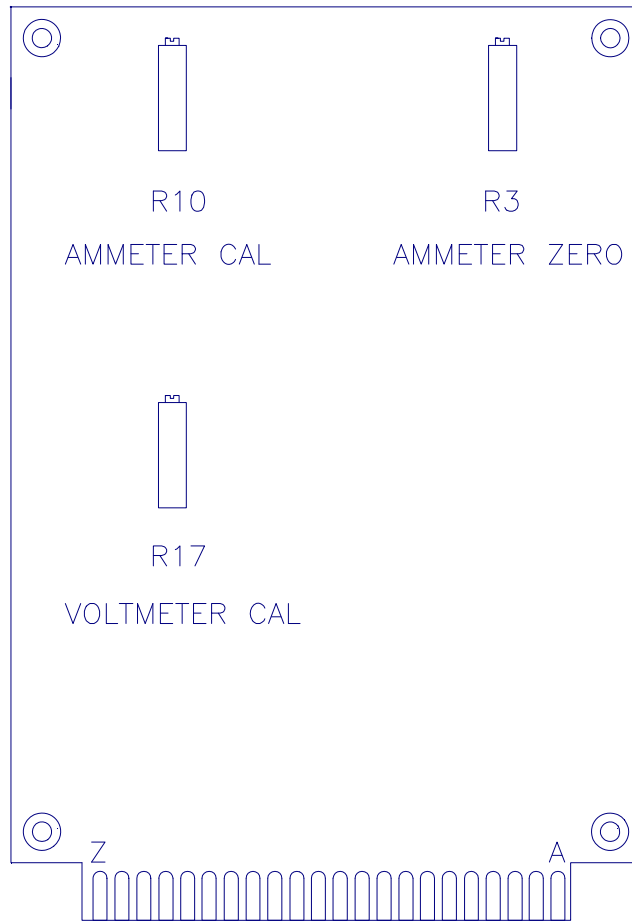

Figure 7 - Meters Board Adjustments (rear view)
10.2 DIGITAL METERS (see [Figure 7]).